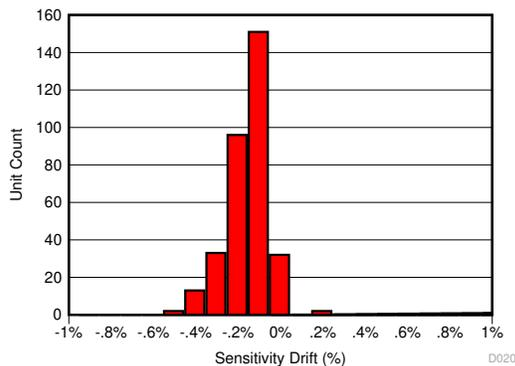
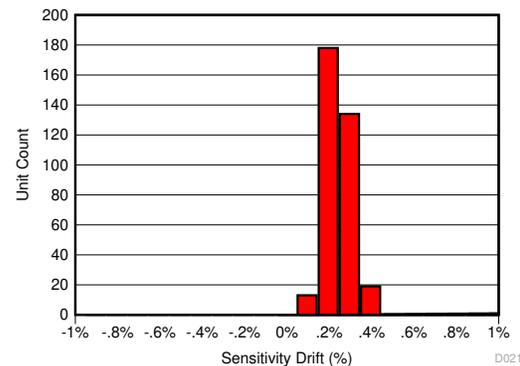

Figure 9-4. Sensitivity Error After 130°C, 85% RH HAST
Figure 9-5. Sensitivity Error Drift After AEC-Q100 High Temperature Operating Life Stress Test
The same compensation techniques used in the TMCS1100 to reduce temperature drift also greatly reduce lifetime drift due to aging, stress, and environmental conditions. Typical magnetic sensors suffer from up to 2% to 3% of sensitivity drift due to aging at high operating temperatures. The TMCS1100 has greatly improved lifetime drift, as defined in the Electrical Characteristics for total sensitivity error measured after the worst case stress test during a three lot AEC-Q100 qualification. All other stress tests prescribed by an AEC-Q100 qualification caused lower than the specified sensitivity error, and were within the bounds specified within the Electrical Characteristics table. Figure 9-4 shows the total sensitivity error after the worst-case stress test, a Highly Accelerated Stress Test (HAST) at 130°C and 85% relative humidity (RH), while Figure 9-5 and Figure 9-6 show the sensitivity and offset error drift after a 1000 hour, 125°C high temperature operating life stress test as specified by AEC-Q100. This test mimics typical device lifetime operation, and shows the likely device performance variation due to aging is vastly improved compared to typical magnetic sensors.